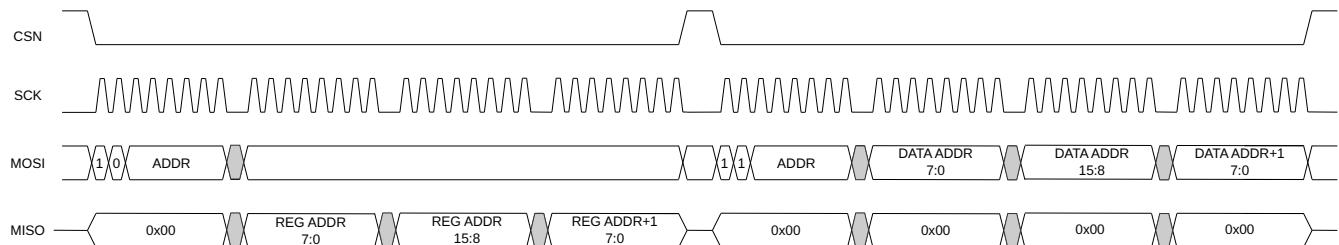

Figure 1.8: SPI burst read and write transaction.
The SPI burst transfers is illustrated in Figure 1.8. SPI burst transfers continuously transfer data bits every SPI clock cycle indefinitely until **CSN** is raised. The address will be incremented while the transaction is active for every two (2) bytes.